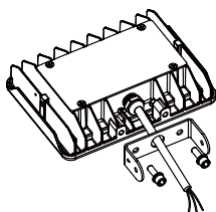

figure 2.1
Step 2: Pass the wire through hole of bracket; (figure 2.1)